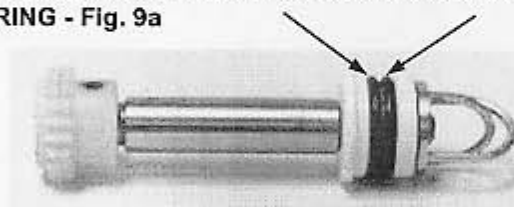

Fig. 9a
6. Remove the spinner drive assembly (Fig. 9a) from the mixing block by grasping the drive shaft and with a twisting motion pull the drive assembly away from the mixing block. Pull the gasket from the top of the mixing block.
NEVER LUBRICATE THE TWO O-RINGS ON THE BEARING - Fig. 9a